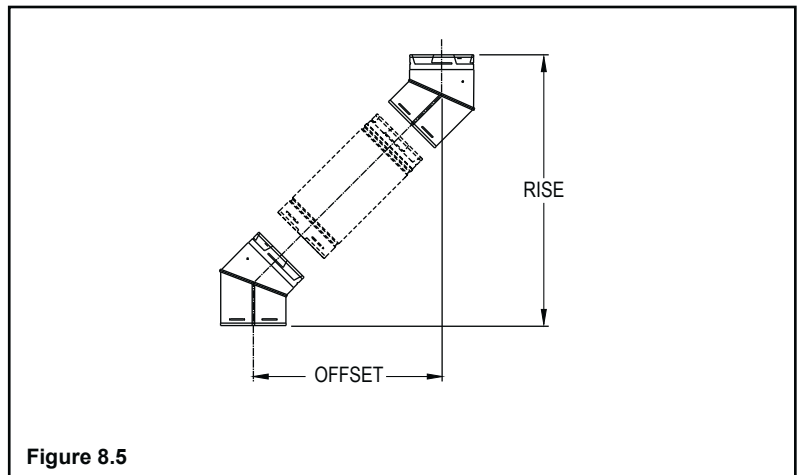

Figure 8.5
- Measure the shift required to avoid the overhead obstruction (Offset, Figure 8.5).
- The rise (see Figure 8.5) coinciding with the offset dimension measurement in Table 8.2 represents the required vertical clearance needed to complete the offset/return.